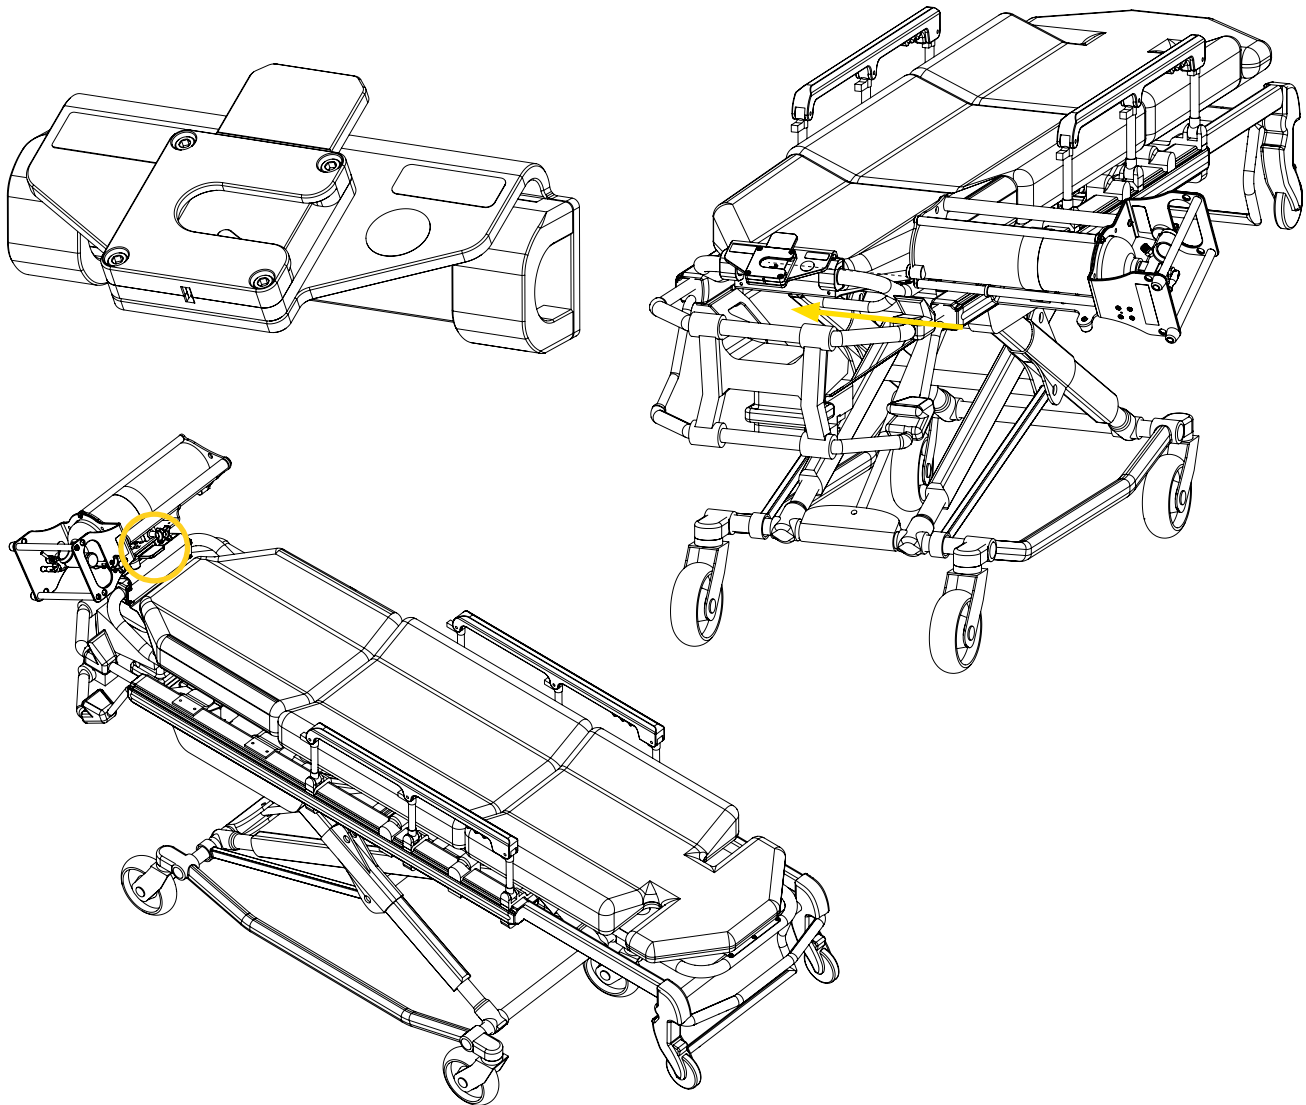

Figure 22: Quick release button upwards – bracket installed by the left and towards the right at patient foot end of the stretcher
Installations at patient foot end of the stretcher require using a Flex Sequor Stretcher Foot End. The Flex Sequor Stretcher Foot End is preinstalled in factory, and can only be installed on the stretcher one (1) way (Figure 22).